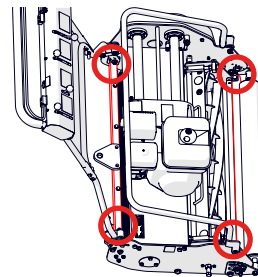

Fig.24 - Anchor points for transport.
- Anchor the machine to the floor/pallet using suitably rated tie-down straps. Anchor around the front and rear tie-bars (high-lighted red in Fig.24).